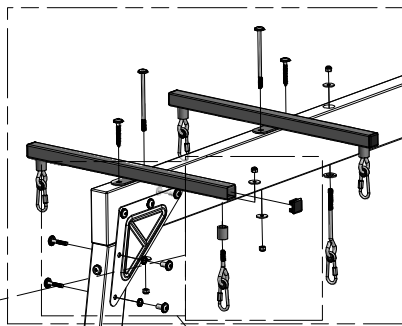

FIG. 1
(4) EY - TUBING CAP GLIDER SUPPORT - A100067
ATTACH (2) QZ TRIANGLE PLATES TO W71 SWING BEAM SUPPORT USING (2) 1-3/4" BOLTS, LOCK WASHERS AND 7/8" BARREL NUTS (FIG.1).
- PLACE 1 SLIDE RAIL ON A FLAT SURFACE AND BEGIN INSERTING SLIDE BED AT THE BOTTOM OF THE SLIDE RAIL (FIG. 1). PUT SLIDE SUPPORT BOTTOM INTO THE SUPPORT POCKET AT THE BOTTOM OF THE RAIL AND HAVE A HELPER BEND THE SLIDE BED TOWARDS THE TOP OF THE SLIDE AND INSERT THE BED INTO THE SLIDE CAVITY. MAKE SURE SLIDE BED IS COMPLETELY DOWN IN THE SLIDE CAVITY. SECURE USING (12) 2-1/2" WOOD SCREWS AT EACH OF THE PILOT HOLE LOCATIONS AS SHOWN BELOW.